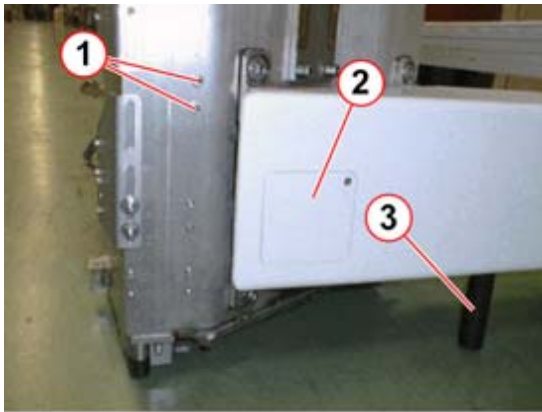

Fig. 8: Front of chain mounting
- Remove the attachment screws (1/Fig. 8 / p. 16) for the chain mounting.
- Remove the cover plate (2/Fig. 8 / p. 16) on the table arm.
- Attach the support bolts (3/Fig. 8 / p. 16) (3 pcs.) to the table from underneath.
- Attach the front brackets for the chain (Fig. 8 / p. 16).
- Attach the cover plate to the table arm (2/Fig. 8 / p. 16).
- Move the table up until the support bolts (3/Fig. 8 / p. 16) (3 pcs.) can be removed using the hand crank.